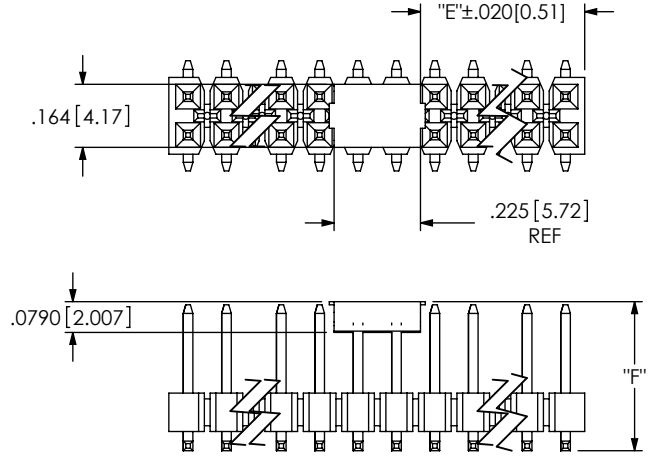

FIG 5
- M: METAL PICK AND PLACE PAD (USE LMP-01 OR MPP-01, SEE FIG 5, SHT 2) (NOT RECOMMENDED WITH -T OR -TM PLATING) (LEAD STYLES -01 & -04 ONLY) (AVAILABLE ON POS 04 THRU 36) (AVAILABLE ON POS 02 AND 03 WITH -TR OPTION ONLY, SEE NOTE 5)